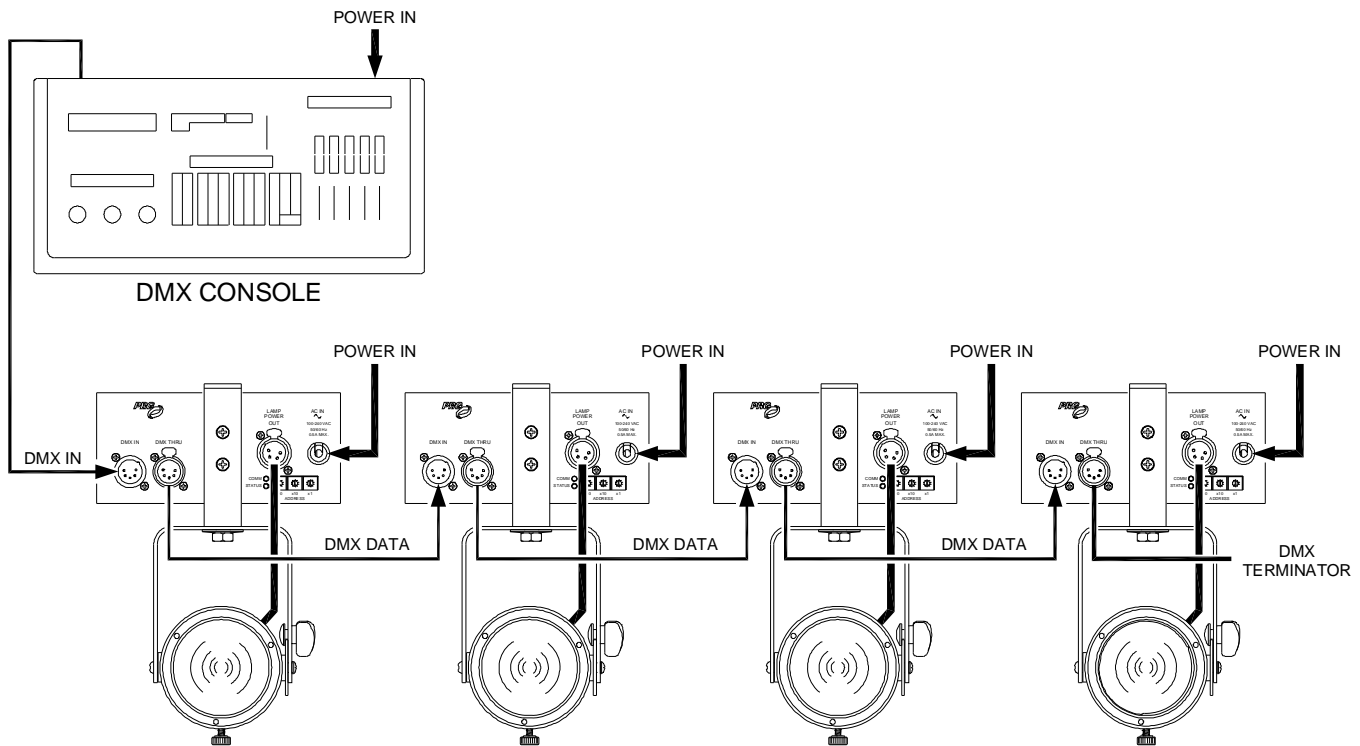

Figure 8: Daisy Chain Configuration
- Step 1. Connect DMX data cable from console to DMX IN connector at first Bullet Luminaire in chain (**Figure 8**).